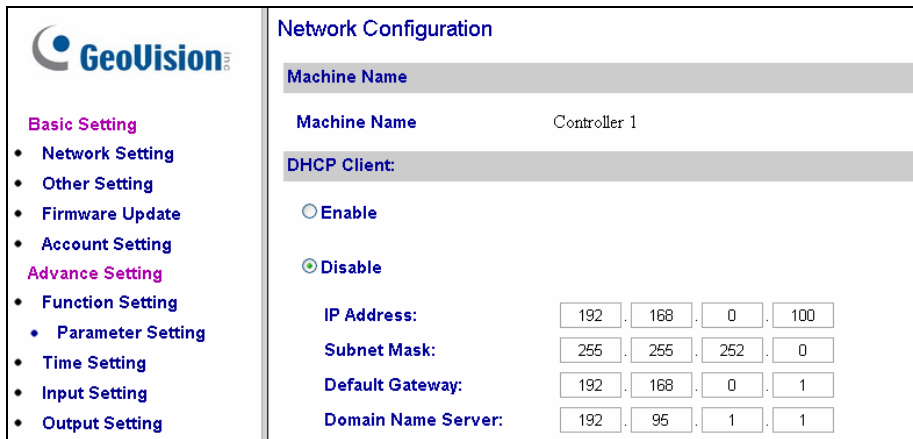

Figure 11-2
5. Open the browser and enter the assigned IP address of the controller. The Network Configuration page appears. See Figure 11-2.